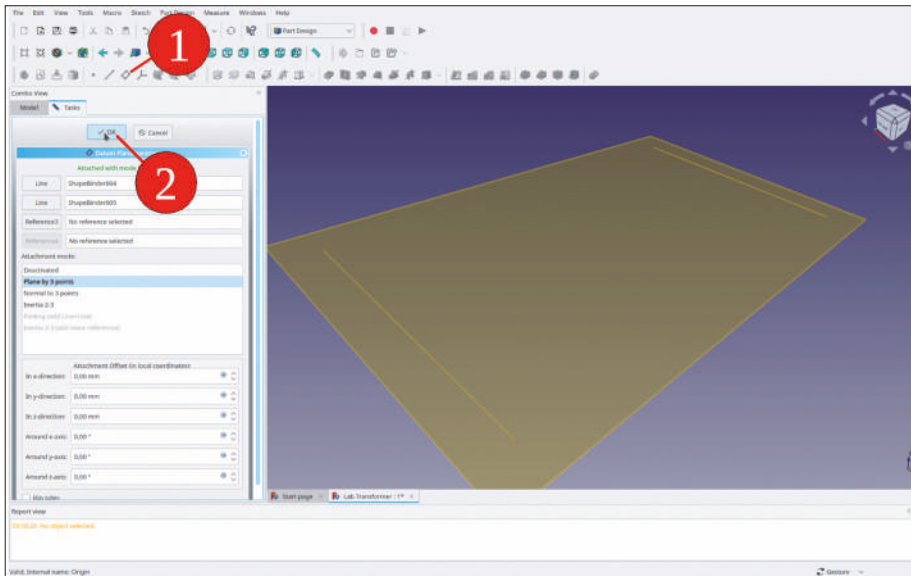

Figure 9-108
7. In the tree view, mark the two new shape binders and click the 'Create a datum plane' tool button (Figure 9-108). Do not change the preset values and close the task window with the 'OK' button. Rename the new datum plane to 'Trafo Cover Top Plane'.